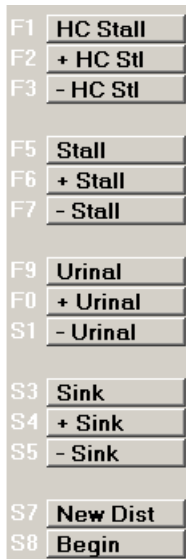

Figure 5-12: The Plumbing fixture menu.
4. A new menu appears, as shown in Figure 5-12.